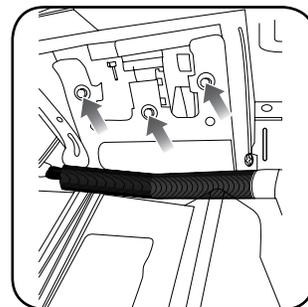
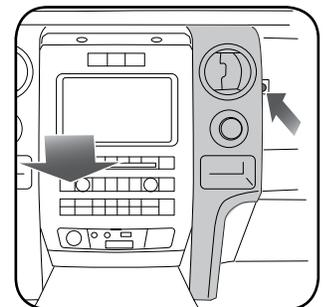

Fig. 1.5
Fig. 1.6
5. Remove (3) 10 mm bolts securing the air bag. (Fig. 1.5) This should expose (1) 7mm bolt securing the panel to the right of the radio bezel. Remove the 7mm bolt, then unclip and remove the panel. (Fig. 1.6)